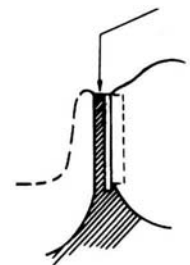

Fig. 18
1. Carefully block out the master cast. Relieve the saddle areas. Place the attachment male in the female on the model and block out the back of the male with 32 gauge (0.3mm) sheet wax. This will provide adequate space for solder between the vertical strut and the attachment (Fig. 18).